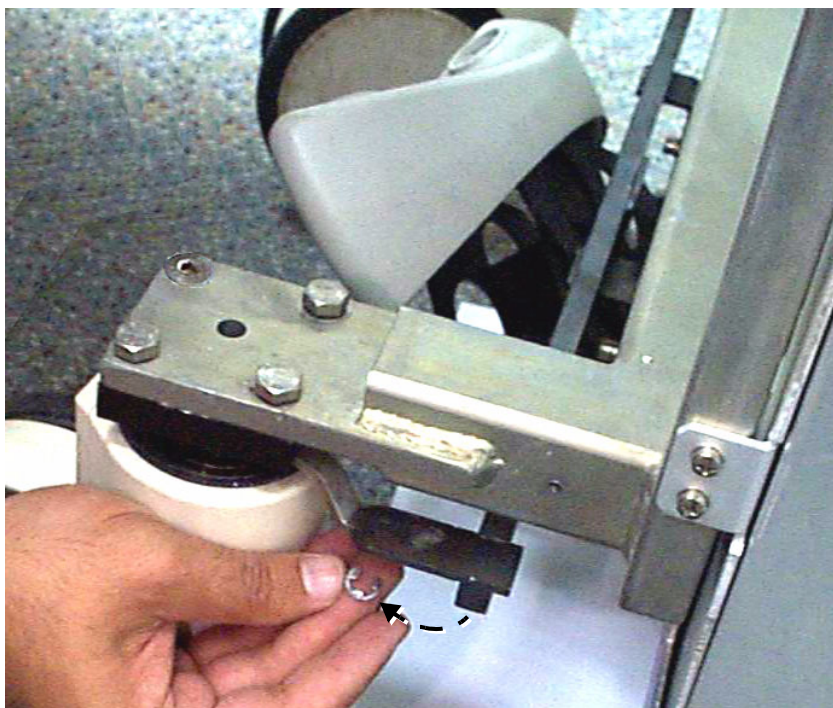

Figure 8-96 Releasing the Spring Washer from the End of the Transverse Arm
- 4.) Release the locking spring washer from the underside of each end of the transverse arm, as shown in Figure 8-96 below.
- 4.) Lift the transverse arm *upwards* and attach a new locking spring washer (supplied) to the underside of each end of the transverse arm. Refer to step 4 on page 8-108 and Figure 8-96 on page 8-108.